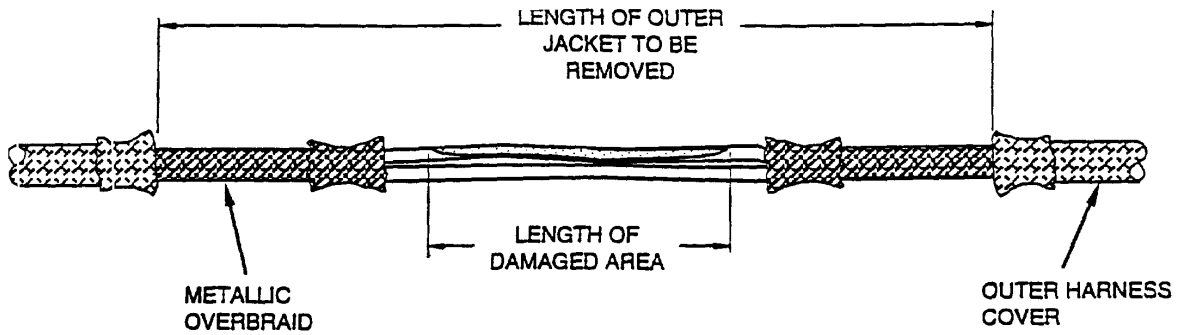

Figure 24. Wire Damaged Area
- d. Determine the length of the damaged area (Figure 24), and pull the braid and shield further back in accordance with Table 1.